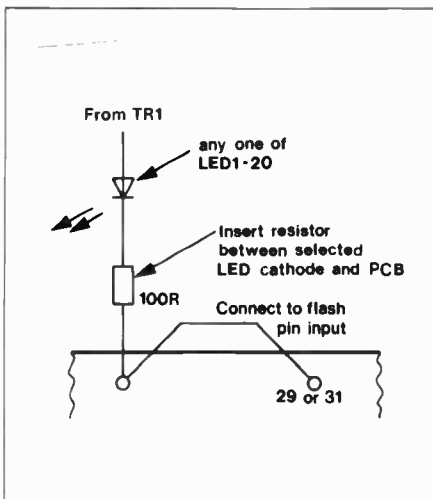

Figure 4. Connection for flashing mode
Flash input pin 31 (29) can be connected to any one (only) of LED's 1 to 10 (11 to 20) as shown in Figure 4. It is important to connect a 100Ω resistor in series with the chosen LED otherwise insufficient discharge current for C1 (C2) is developed. For example, connecting LED 10 via a 100Ω resistor to pin 9 on the PCB and connecting pin 9 to pin 31 flash input, will cause all ten LED's to flash twice a second and could signify display over voltage in a voltmeter project.